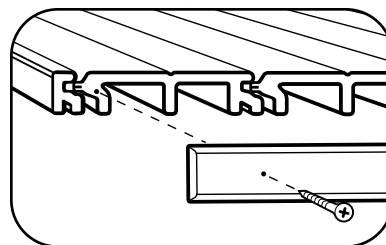

Fig. 48
- Pre-drill holes in both TimberTech End Cap and plank legs as shown (Fig. 48).